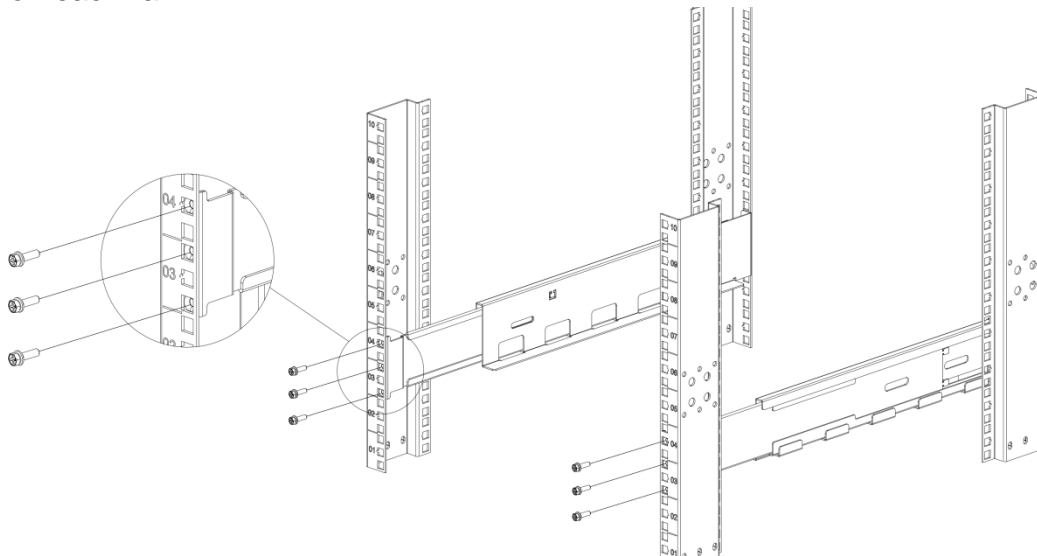

Figure 11: Install the Rear Side of Rails
4. Assemble the rear side of the rail kit with 3x Phillips Pan Head M5 screws (see Figure 11) on each rail.